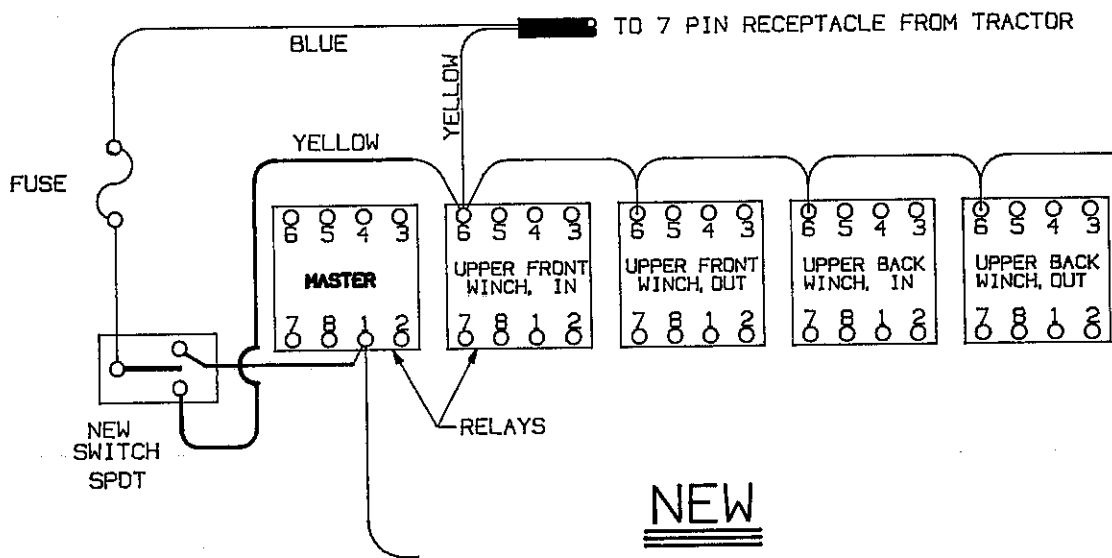

**Figure 1**
2. Find the remote control "ON" - "OFF" switch in the valve compartment. Remove this switch. (See fig. 1)
3. Install the replacement switch (p/n 3-765-010006) which is supplied with this retrofit kit. Position the switch so the toggle flips UP and DOWN. (See fig. 1)